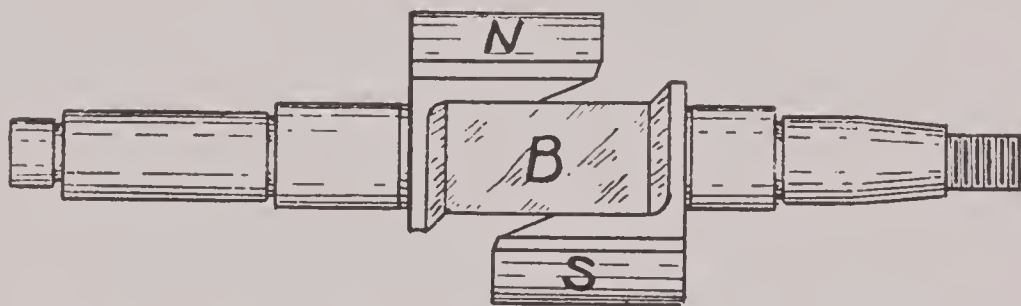
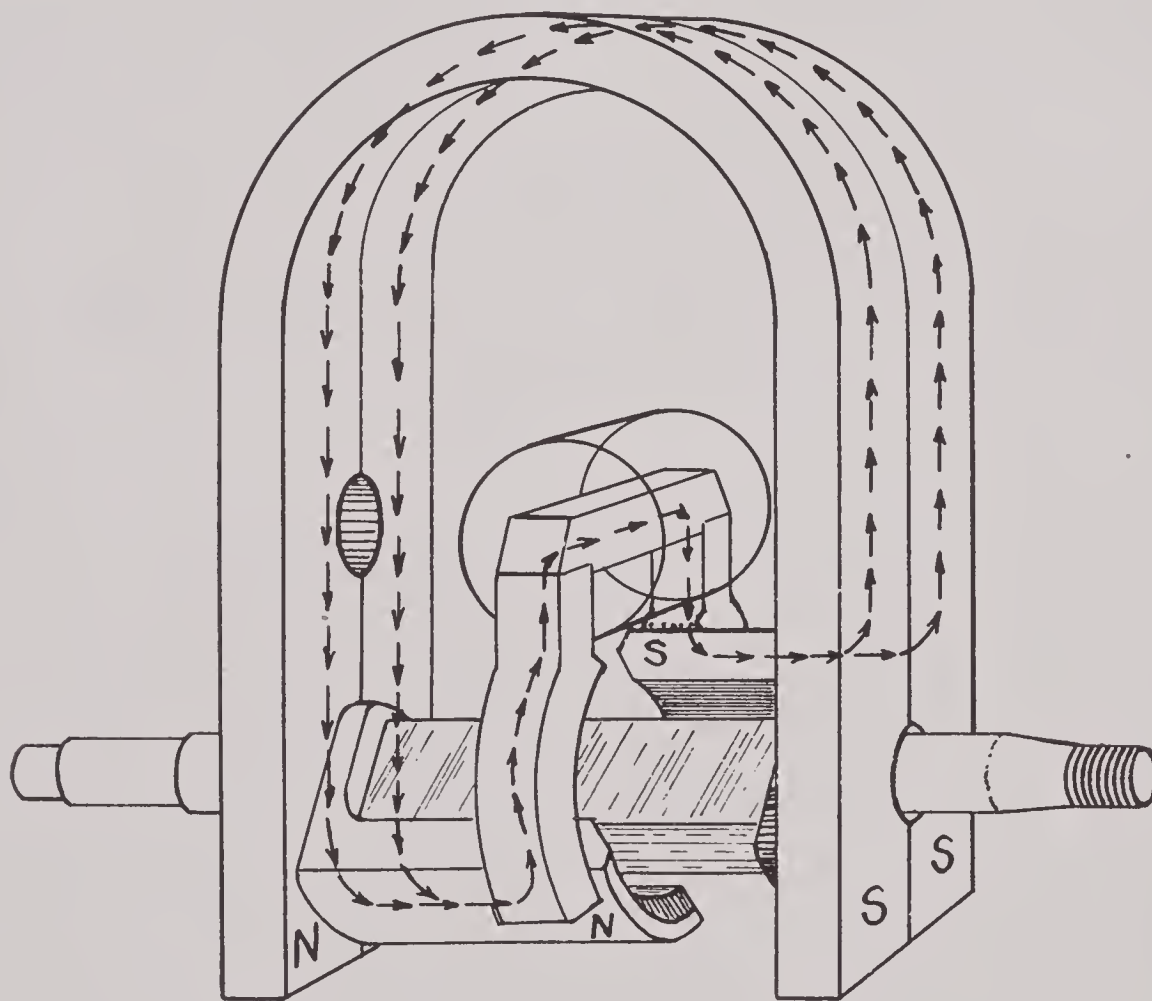

FIG. 254
FIG. 255
Fig. 255 illustrates the magnetic path as formed in the "Dixie" magneto, and the position of the armature coils with relation to the magnets. Rotating poles (N and S) are carried on the drive shaft (Fig. 254) and are coupled together by a bronze block (B) to which they are riveted. Bronze being non-magnetic, the magnetic lines of force follow the armature core from one pole to the other instead of flowing directly from one pole to the other through the block to which they are riveted.